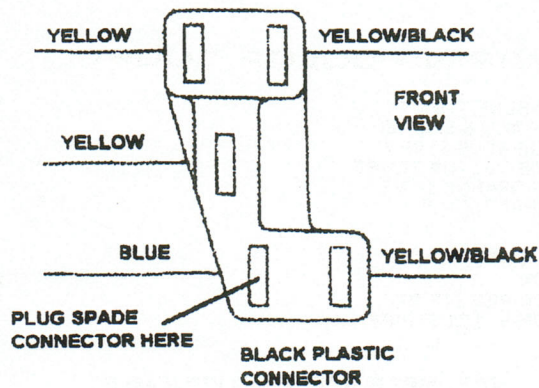

Figure 3. Emergency relay wire connection
3. Mount the unit in the original location using the original hardware as shown in Figure 2. Plug in the flasher control unit connectors to the wiring harness. *Note:* The black bullet connector is not used on the early 1967 Cougar. Plug the single spade connector into the black plastic emergency relay connector in the socket pin matching the light blue wire (Figure 3). Use electrical tape to secure the pin to the socket.